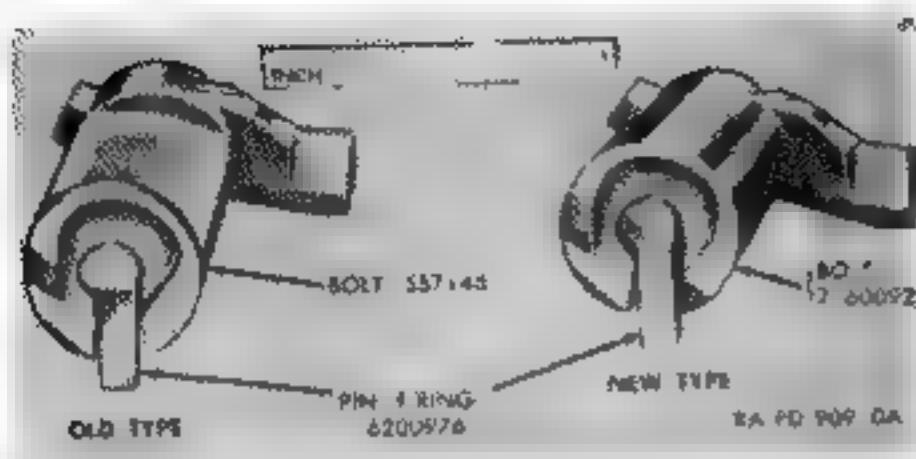
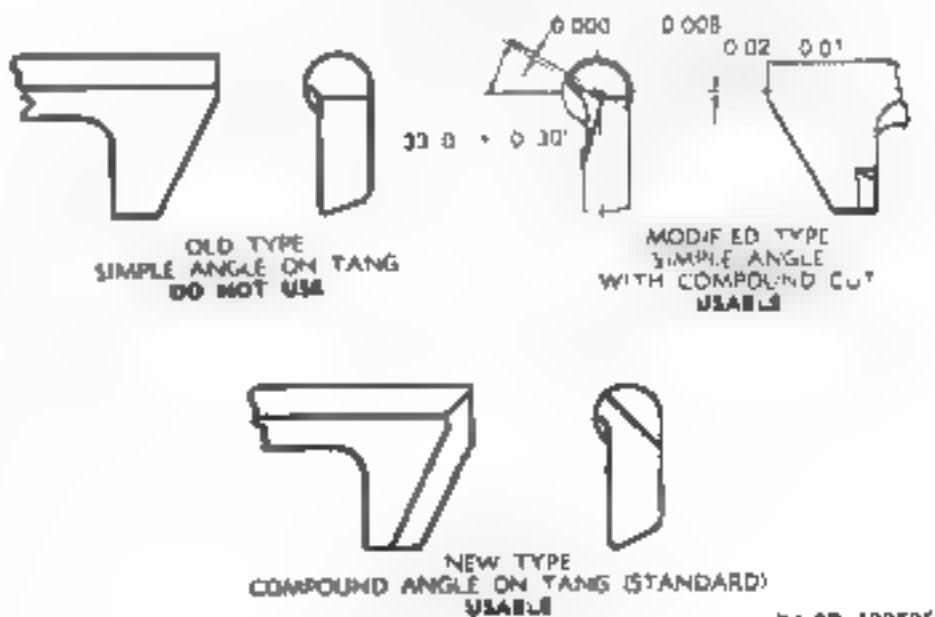

Figure 61. Bolt and firing pin.
Figure 62. Firing pin 6200976.
h. Check to assure that only the new type of modified type firing pin (Fig. 61) is used. The old type pins can be modified by depot maintenance if the quantity involved warrants the work required to accomplish this (Fig. 62) Function test bolt and firing pin.